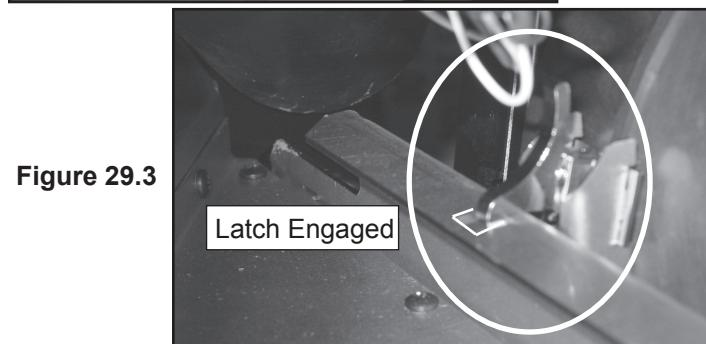

Figure 29.3
10. When the blower is properly positioned the latch will engage the notch to hold the blower in place. **Figure 29.3**.